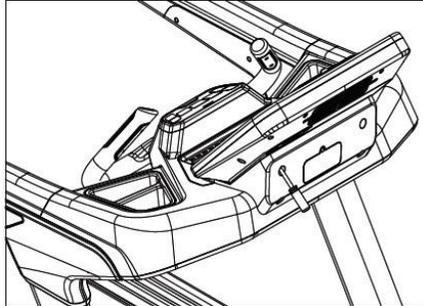

Figure 4.1.1
- 1) As shown in Figure 4.1.1, use screwdriver to remove TFT chin cover.